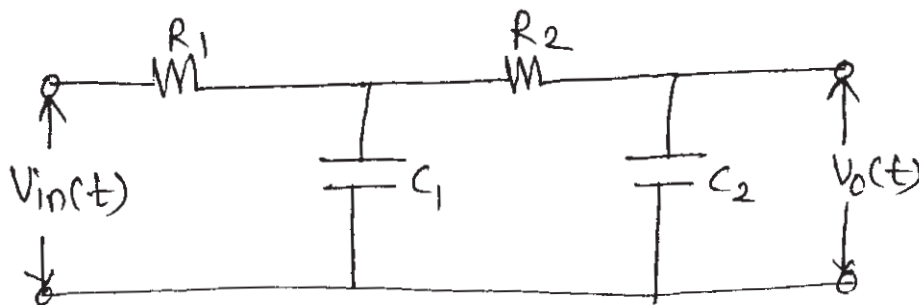

Figure No. 3
- b)** Determine the transfer function  $V_o(s)/V_{in}(s)$  for the system shown in Figure No.3. [8]